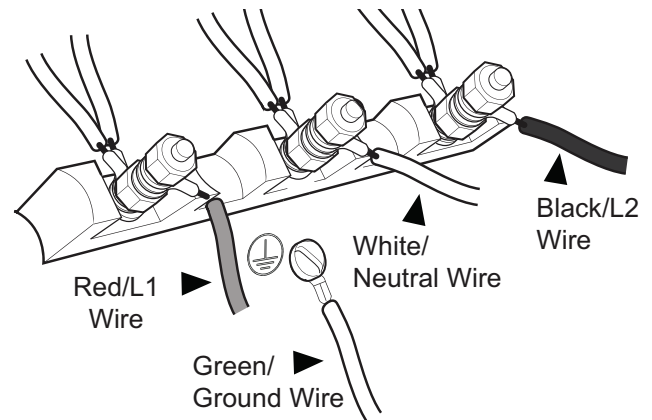

Figure 11: 4-Wire Connection
4. Secure the neutral, grounded wire of the supply circuit, to the center stud of the terminal block with nut (see *Figure 11*).